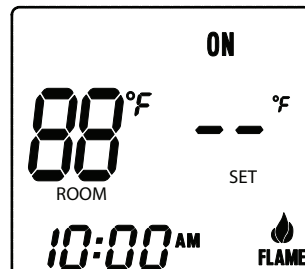

Fig. 5 Manual ON
**Step 1:** Press the MODE button one time to manually turn **ON** the appliance (Fig. 5).